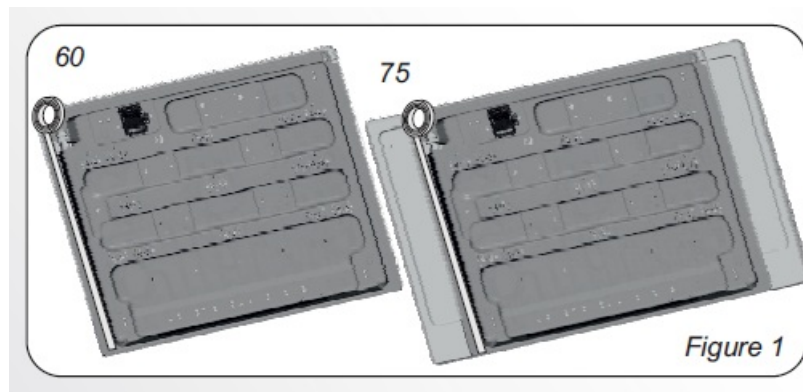

Figure 1
**Metal objects in the drawer may reach high temperatures due to air recirculation. It is therefore recommended to use an intermediate wood panel. Important -The diagram in figure 1 shows how the sealant should be applied.**